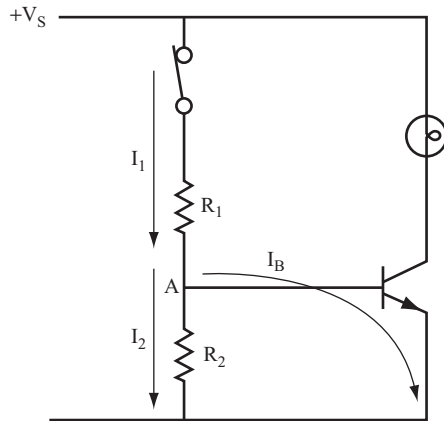

FIGURE 4.20
**29** If you connect  $R_1$ ,  $R_2$ , and a switch together, as shown in Figure 4.20, you can use a simple ON-OFF switch with only two terminals. (This is a single-pole, single-throw switch.)
**30** When the switch is closed, current flows through  $R_1$ . However, at point A in Figure 4.20, the current divides into two paths. One path is the base current  $I_B$ , and the other is marked  $I_2$ .